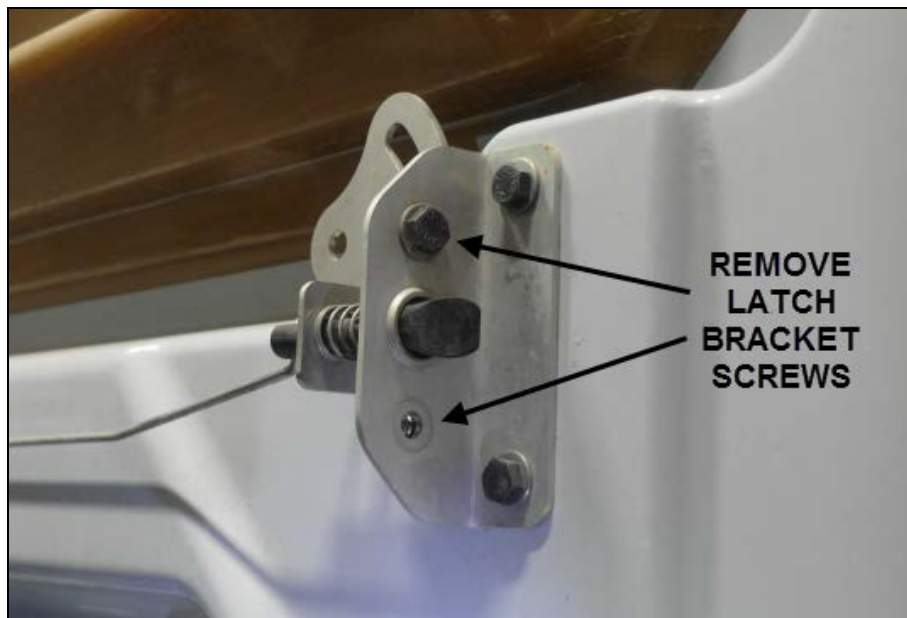

FIG.12 LATCH BRACKET SCREWS
11. Moving to the road side latch, remove the two latch bracket hold-down screws (Fig.12).